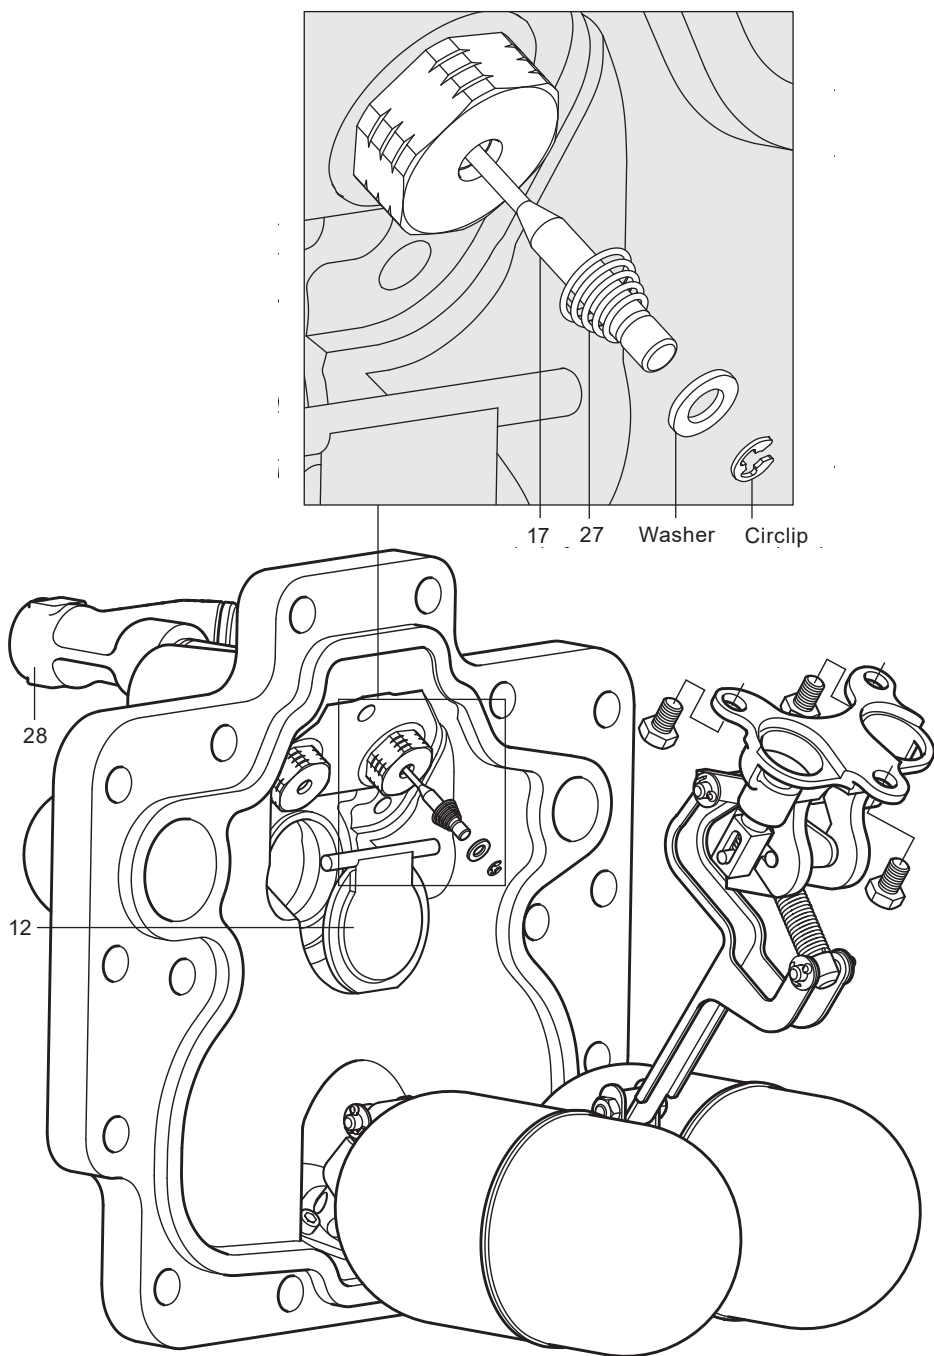

Fig. 21 APT14 shown
13. Carefully reconnect the motive steam supply and the exhaust lines to the connections marked (S) and (E). The APT14, APT14HC or APT14SHC is now ready to recommission.
14. Make sure that the Spirax Sarco motive supply strainer (with 100 mesh screen) is reinstated to the motive supply connection (item 28, Figure 21).